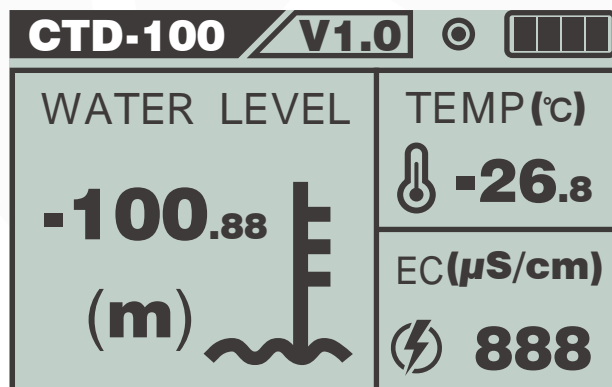

Figure 6. Data page of the current sensor CTD-100.
■ This interface shows that we have currently loaded 5 types of sensors. Press ▲ or ▼ on the button menu to switch between sensor models. The icon with a black box indicates that it is currently selected, and the above figure shows that 1. CTD-100 is currently selected. Press Enter key to enter this sensor interface, as shown in Figure 6. The CTD-100 in the upper left corner of the first line represents the model of the currently selected sensor, V1.0 represents the current version. The breathing circle icon shows dynamic breathing to indicate that the program is running well. The battery icon represents the current battery level of the device. The three interfaces in the second line, WATER LEVEL, indicate that the water level tested by the CTD-100 sensor is -100.88 meters. TEMP indicates that the current temperature at the location of the sensor is -26.8 °C. EC indicates that the current conductivity of the sensor at its location is 888 $\mu$ S/cm.